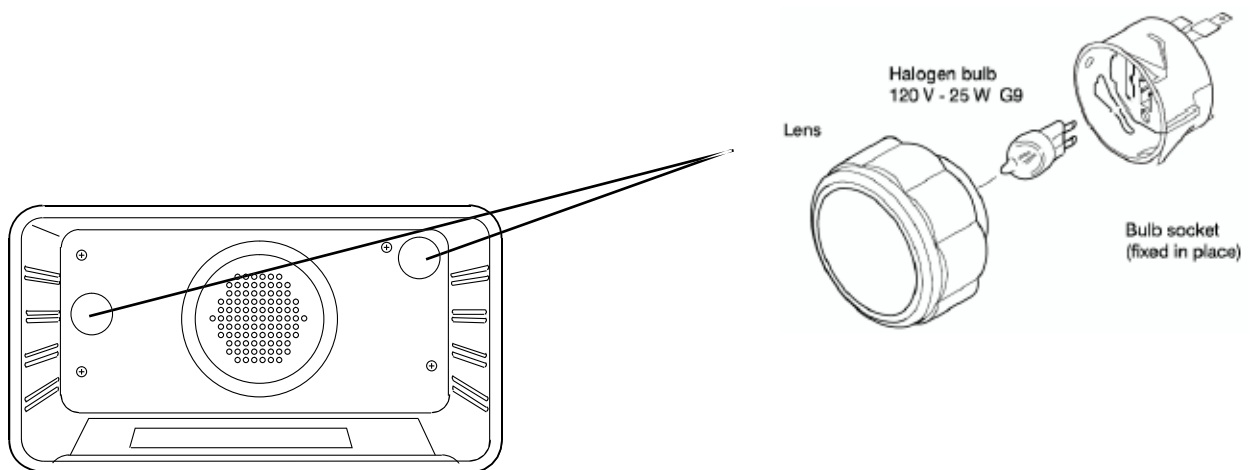

Figure 17: Oven Light
- Each light assembly consists of a removable lens, a light bulb and a light socket housing that is fixed in place (see Figure 17, next page).
### To replace a light bulb (see figure 17, next page):